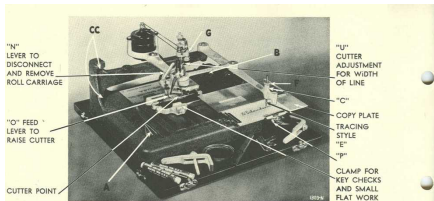

FIG. 1 — 3-E SIGNATURE ENGRAVER
References are to Fig. 1 above unless otherwise indicated. The machines come packed in their own carrying cases. When the cover has been removed the bottom of the case serves as a base for the machine, to which it is bolted.
3. Clip signature which has been written on a piece of stiff paper to the copy plate (Fig. 1).
Engraving at an Angle: If the signature lies straight across the copy plate the pen will be engraved straight along the barrel. Any deviation of the signature from the horizontal will cause a corresponding deviation in the engraving on the pen. To engrave at a given angle, loosen the clamp P (Fig. 1) and swing copy plate to desired angle. To engrave signature completely around the barrel, swing copy plate 90 degrees.
Fill the motor grease cups every month with a light motor grease such as Standard Oil Co.'s Superia X-2 or any vacuum cleaner motor grease. Wipe with an oily rag occasionally, the narrow center guide beneath roll carriage and guide at upper rear of carriage. Roller shaft bearings on roll carriage, and rear bearings CC (Fig. 1) carrying pantograph assembly, should be oiled every month. Use a toothpick or broom straw for a dropper so as not to get too much oil. Any light oil is satisfactory.